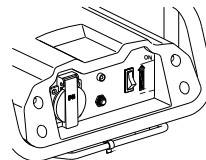

figure 4-4
- (4). Turn the engine switch to "ON" (See figure 4-4).